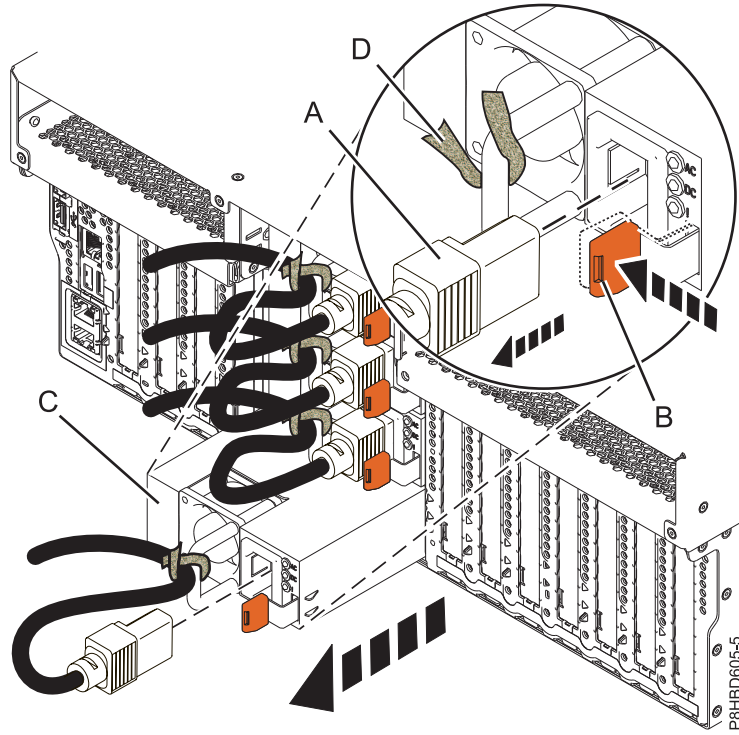
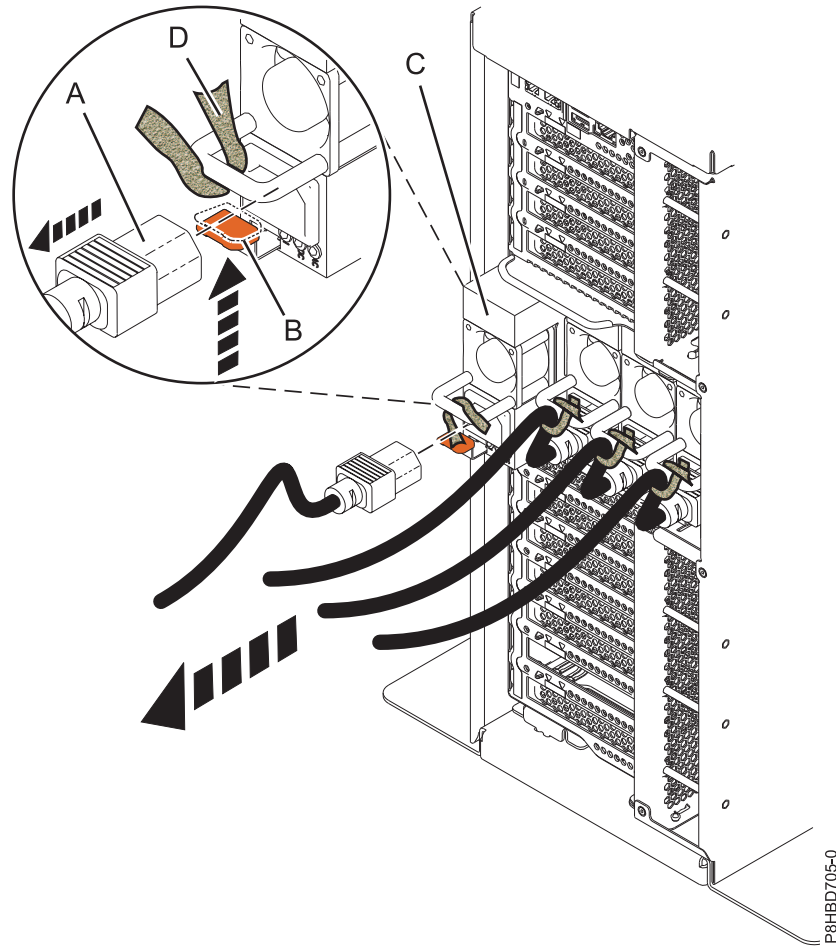

Figure 19. Removing a power supply from a rack-mounted system
Figure 20. Removing a power supply from a stand-alone system
3. Label and disconnect the power cord from the power supply by pulling the end of the power cord **(A)** out of the power supply in the direction that is shown in Figure 19 on page 22 for a rack-mounted system and Figure 20 on page 23 for a stand-alone system.
4. To unseat the power supply from its position in the system, push the terracotta locking-tab **(B)** in the direction shown in Figure 19 on page 22 for a rack-mounted system and Figure 20 on page 23 for a stand-alone system.
5. To release the power cord that is strapped to the handle, unstrap the hook-and-loop fastener (D) and then pull the power cord away from the power supply (C). Ensure to retain the hook-and-loop fastener (D) on the power cord.
6. Pull the power supply (C) away from the system, as shown in Figure 19 on page 22 for a rack-mounted system and Figure 20 for a stand-alone system.